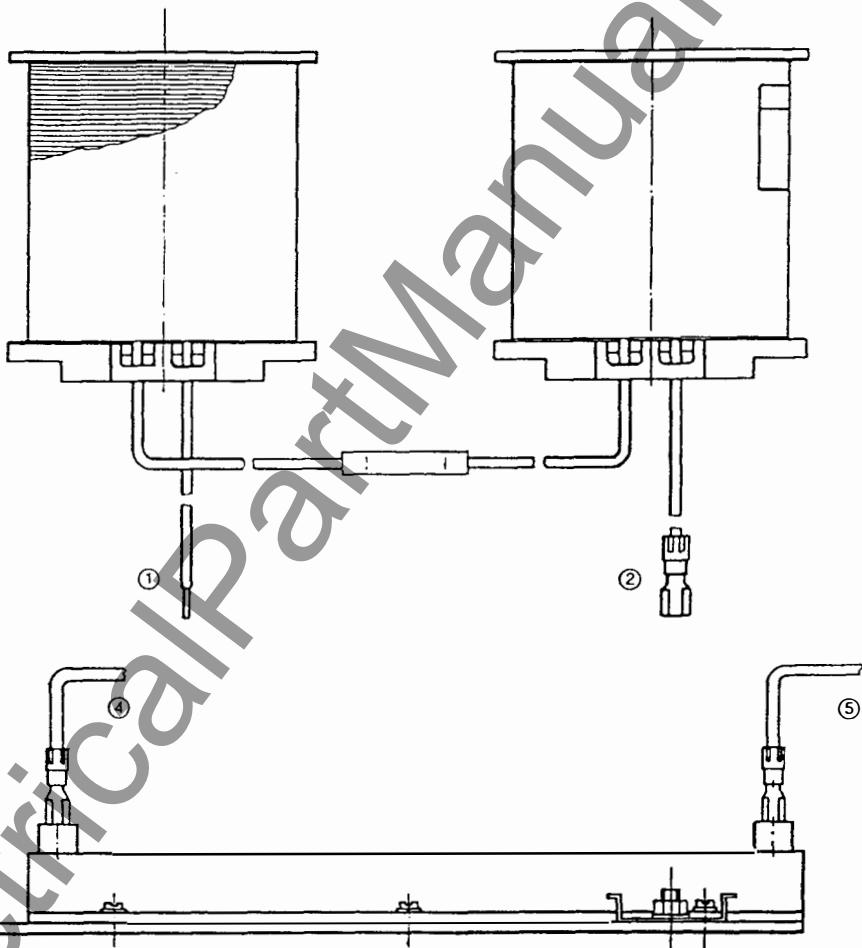
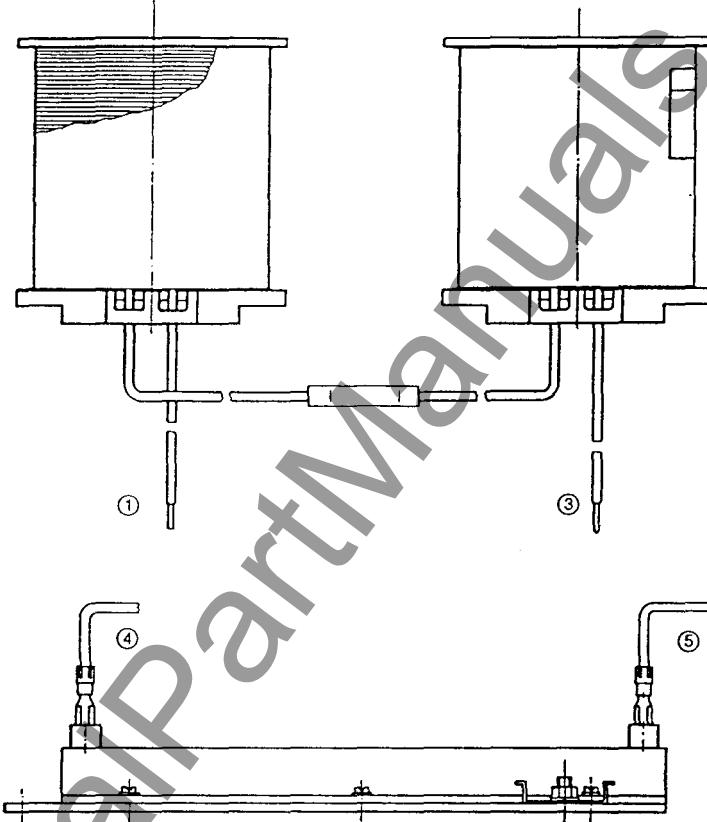

Fig. 10
Fig. 11
- Zuleitungen des Spulenpaars 8.1 (neu) und des Sparwiderstandes 11.1 (neu) entsprechend Fig.10 für Wechselstrombetätigung bzw. Fig.11 für Gleichstrombetätigung anschließen
- Reconnect the leads to the new pair of magnet coils 8.1 and to the new economy resistor 11.1 as follows and as shown in Fig.10 for AC operation and Fig.11 for DC operation
- Turn the auxiliary switch 10 (fig. 10) so that it engages in the mounting bracket (i.e. push rod of the auxiliary switch must mate with the guide) and secure position